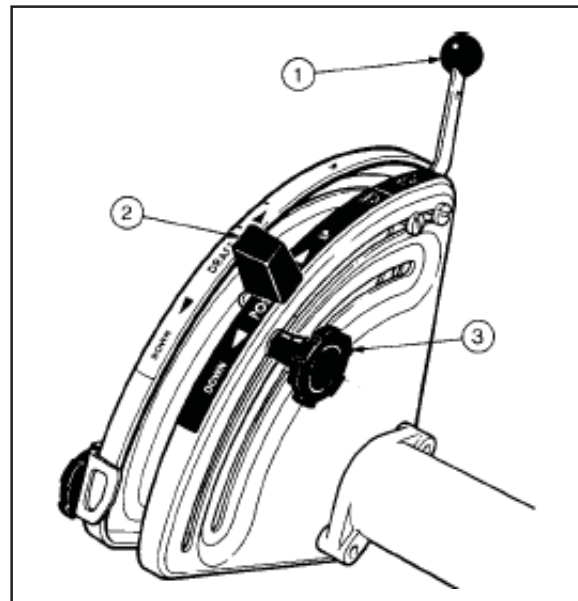

Fig. 61
Draft Control (1, Fig. 61), fully UP position. Response Control, (Fig. 59) in the SLOW position. Operate the hydraulics by using the Position Control Lever (2).